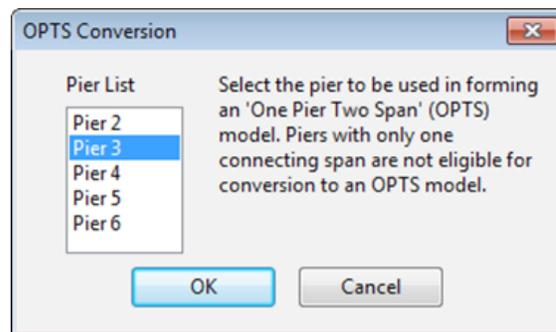

Figure 14 OPTS Conversion dialog.
3. When the "OPTS Conversion" dialog opens, select Pier 3 and click the "OK" button (Figure 14).